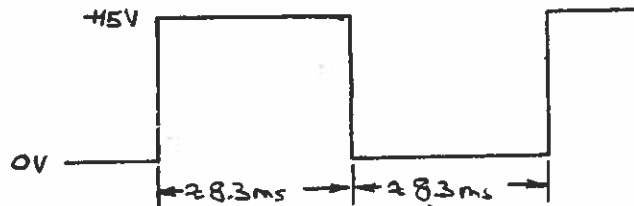

fig. 4
- u) Set P2, and P3 CW, close SW5, and use the scope in the differential mode to check the gate pulses across R15, and R16 of the '504 card. See fig. 4.